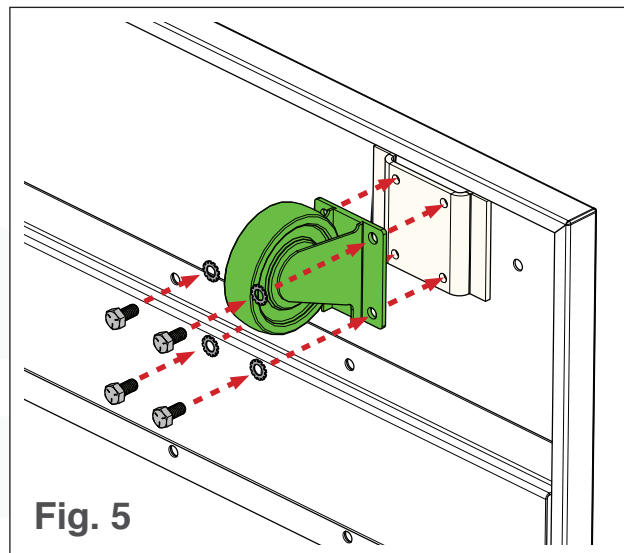

Fig. 5
2. Secure the casters to the base plate using all 16 bolts and star locks washers (see Fig. 5).